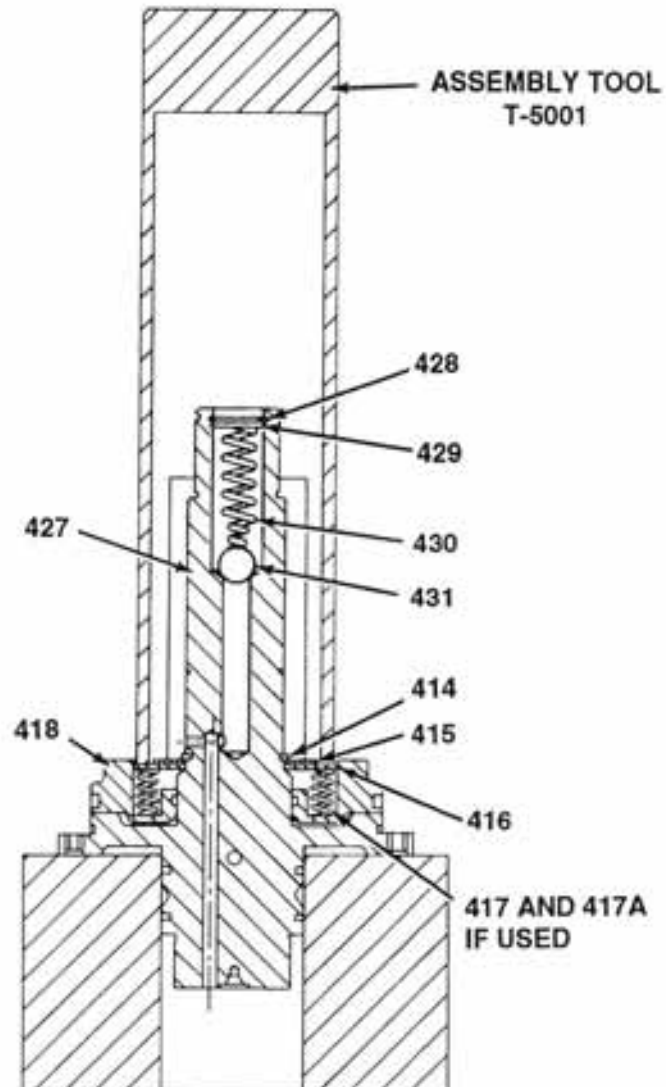

Figure 3-16. Removing Snap Ring
1. Remove twelve bolts (411) and lock plates if used.
2. Remove clutch gear cylinder (413) from lay shaft (427).
3. Support lay shaft (427) in suitable holding fixture (see figure 3-16) in arbor press. Using assembly tool T-5001, press down on spring retainer (416) to compress springs (417, and 417A if used) slightly. Remove snap ring (414).
4. Slowly release arbor press, allowing springs (417, and 417A if used) to expand. Remove assembly tool, thrust washer (415), and spring retainer (416). Remove sixteen springs (417) (transmissions 2001-000-011 thru -016) or four springs (417) and twelve springs (417A) (transmissions 2001-000-001 thru -006 and 2001-000-R01 thru 2001-000-R06). Remove shaft assembly from arbor press and holding fixture.
5. Remove clutch piston assembly (418) from lay shaft (427). Remove sealing ring assembly (419), consisting of sealing ring (420) and o-ring (421), from groove in piston OD. Remove sealing ring assembly (422), consisting of sealing ring (423) and o-ring (424), from groove in piston ID.
6. Remove o-ring (425) and seal rings (426) from lay shaft (427).
7. Remove snap ring (428), spacer (429), spring (430) and ball (431) from lay shaft (427).